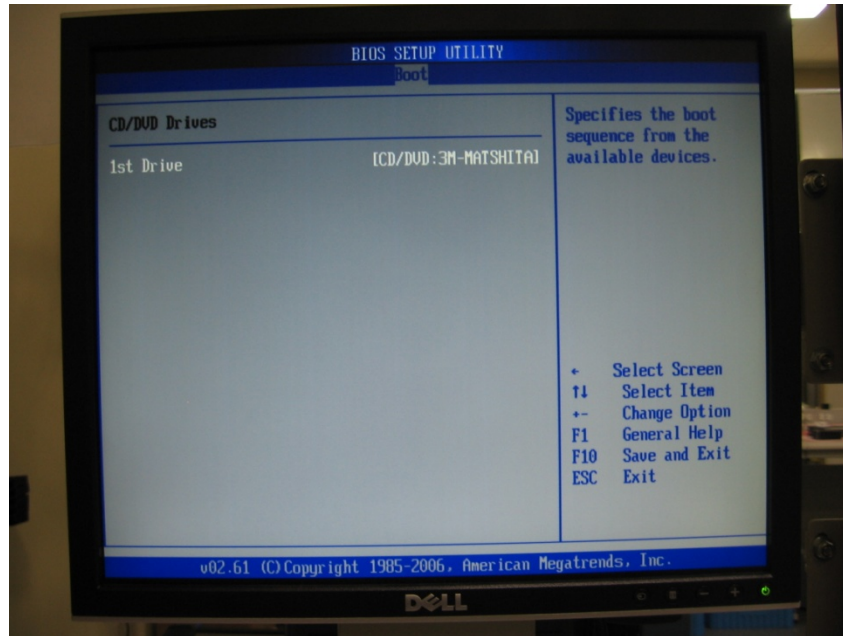

Figure 7-32 Boot Device Screen.
4. Default **Boot Devices Settings**. Then scroll down a further **Boot** options screen. (Figure 7-31) and (Figure 7-32).
5. Default **Boot Devices Settings** (Figure 7-32). Then press **Escape** to return to **Boot** options screen.